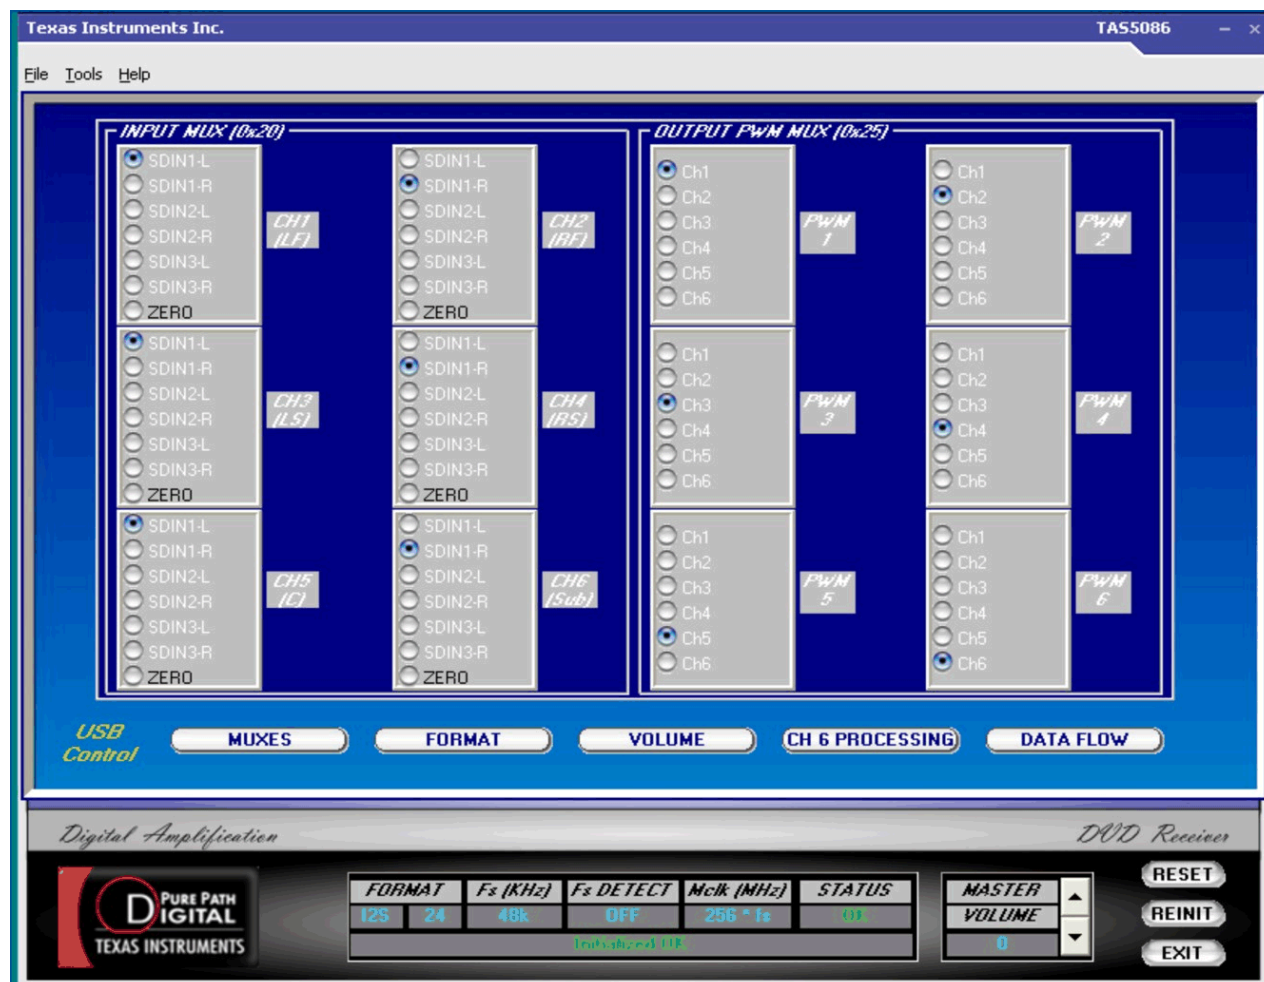

Figure 3-2. TAS5086 GUI
5. Start the TAS5086 GUI from the Windows Start menu (see Figure 3-2).
7. From GUI screen, click on MUXES button, and verify that the blue dots appear as in Figure 3-2.